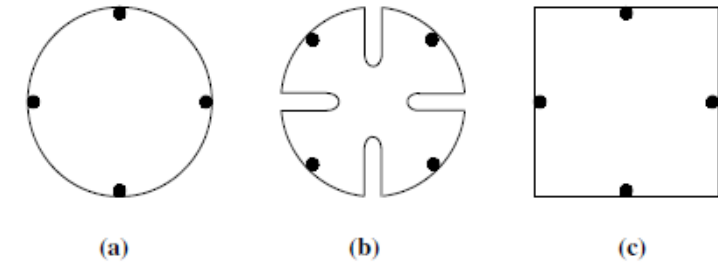

Fig. 1.10 Typical symmetrical circular and square sample geometries.
■ Fig.1.10 shows patterns independent on contact location